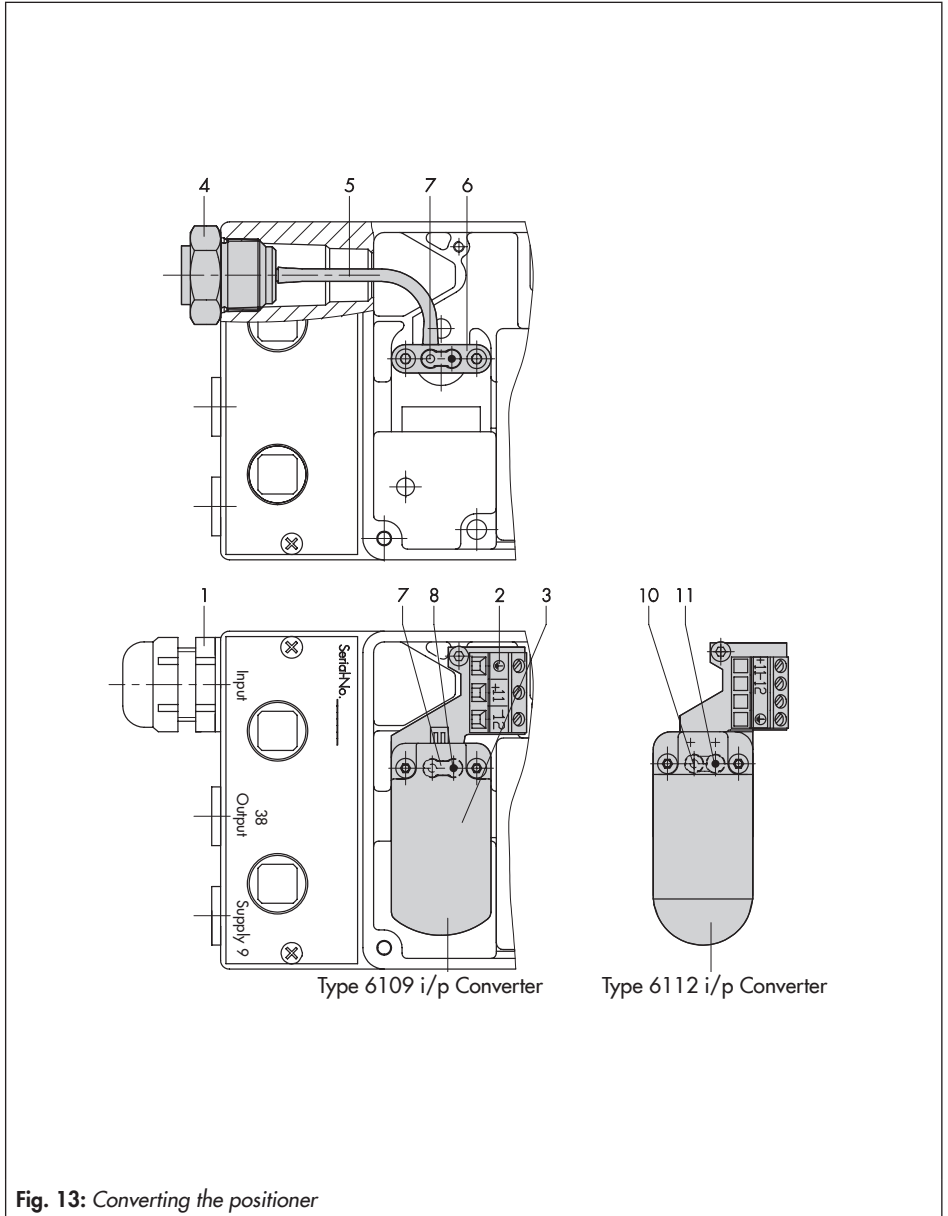

Fig. 13: Converting the positioner
Besides the required Type 6109 or Type 6112 i/p module (see Fig. 13), the associated conversion kit (including printed circuit boards, cable gland and mounting screws) must be ordered.
1. Undo the connecting plate (6) and remove along with sealing element (7). Pull off the hose (5).
2. Unscrew the connecting nipple (4) from the housing.
4. Insert the sealing element (7), on the bottom, into the opening of the printed circuit board so that the restriction with filter (8) are situated on the right side above the innermost of the two housing holes (supply air) when the module (dashed line in Fig. 13) is installed.
3. Check whether the seals (10, 11) are properly inserted on the bottom. When the module (dashed line in Fig. 13) is installed, the seal with restriction and filter must be situated on the right side above the innermost of the two housing holes (supply).
4. Secure the module and the printed circuit board in the housing (two screws for the module, one screw for the printed circuit board). Mount the cable gland (1) together with the seal.